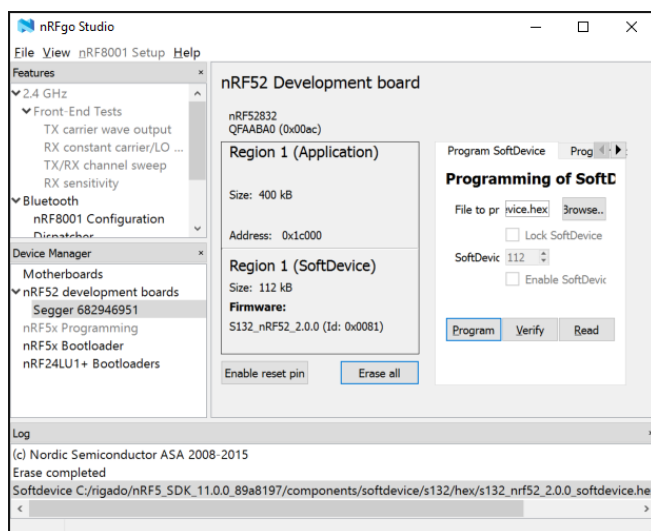

Figure 4 – nRFGo Studio SoftDevice Window
6. After programming, nRFGo Studio should look similar to Figure 4 below: